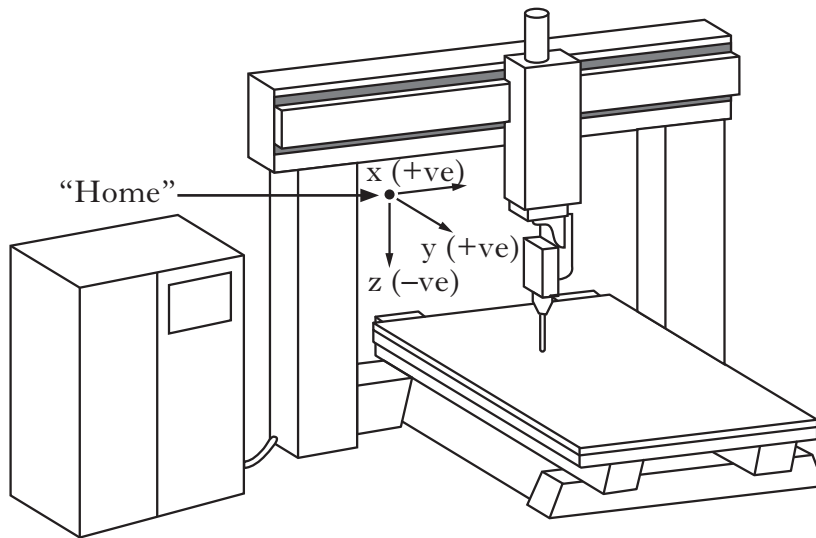

Figure Q11(a)
11. The computer-controlled milling machine shown in Figure Q11(a) uses a rotating cutter head to produce 3-D models. Three stepper motors move the cutter head horizontally in the x-axis and y-axis, and vertically in the z-axis.